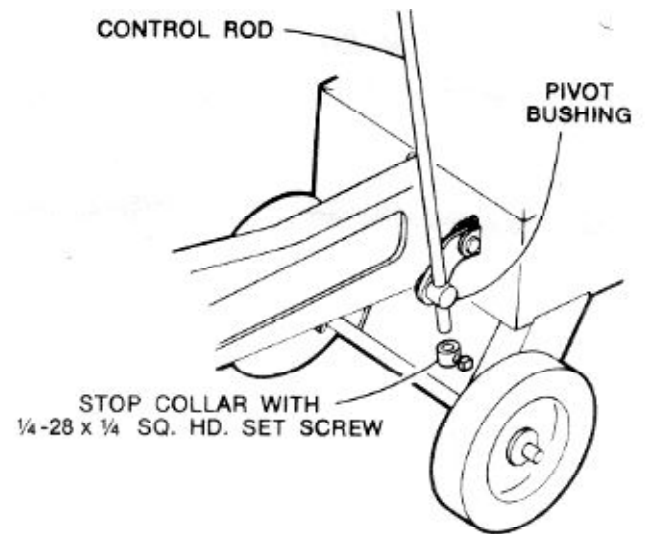

FIG. 8
9. Attach the control rod to the bell crank and control lever, Figs. 8, 9 and 10.
- A. Insert the pivot bushing* into hole in bell crank, Fig. 8.
- B. Slide the straight end of the control rod through the hole in pivot bushing, Fig. 8.
- D. Turn the $\frac{1}{4}$ -28 x $\frac{1}{4}$ sq. hd. set screw*, Fig. 8, into the hole in the stop collar*. **Do not tighten set screw.**